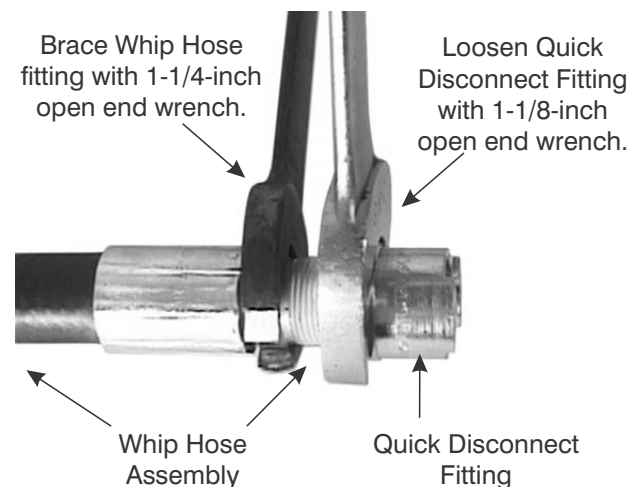

Figure 8-14. Remove Quick Disconnect From Whip Hose
6. Place the Whip Hose on the work surface. Fit a 1-1/8-inch open-end wrench across the flats of the Quick Disconnect Socket (11). Refer to Figure 8-14.
7. While holding the Quick Disconnect Socket (11) in place, use a 1-1/4-inch open-end wrench to loosen and thread the Whip Hose fitting from the Socket. Refer to Figure 8-14.